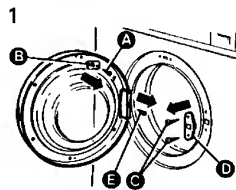
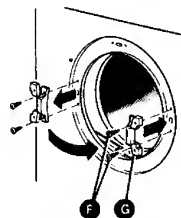
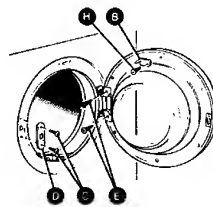

Fig. 1
Fig. 2
Fig. 3
- (Fig 1)
- Undo screw (A)
- Remove switch strike (B) and replace screw
- Remove hinge block screws (E)
- (Fig 2)
- Remove hinge screws (F) and hinge (G)
- (Fig 3)
- Refit latch plate (D) and screws (C)
- Remove screw (H) at top of door and refit switch strike (B) as shown
- Fit door to hinge blocks and secure with screws (E)